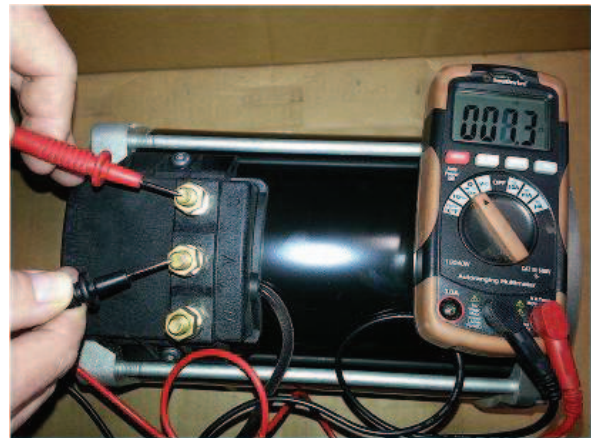

Fig. 23 U and V terminal
3. Then place one meter probe on the U-terminal and the other probe on the V-terminal. Full continuity should be observed (Ref. Fig. 23).